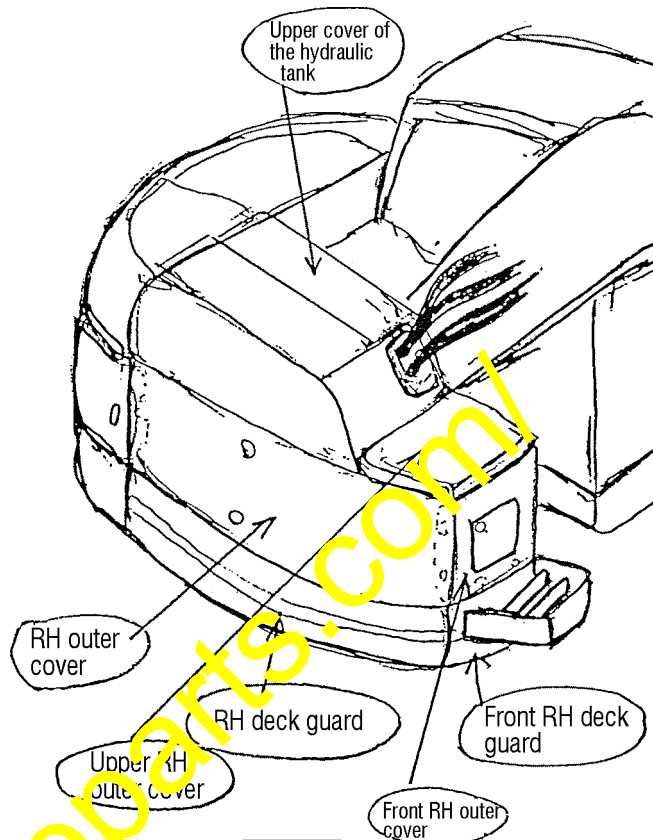

Fig. 1
- 1) Temporarily remove the outer covers and deck guards, 5 units in total, as shown in Fig. 1.